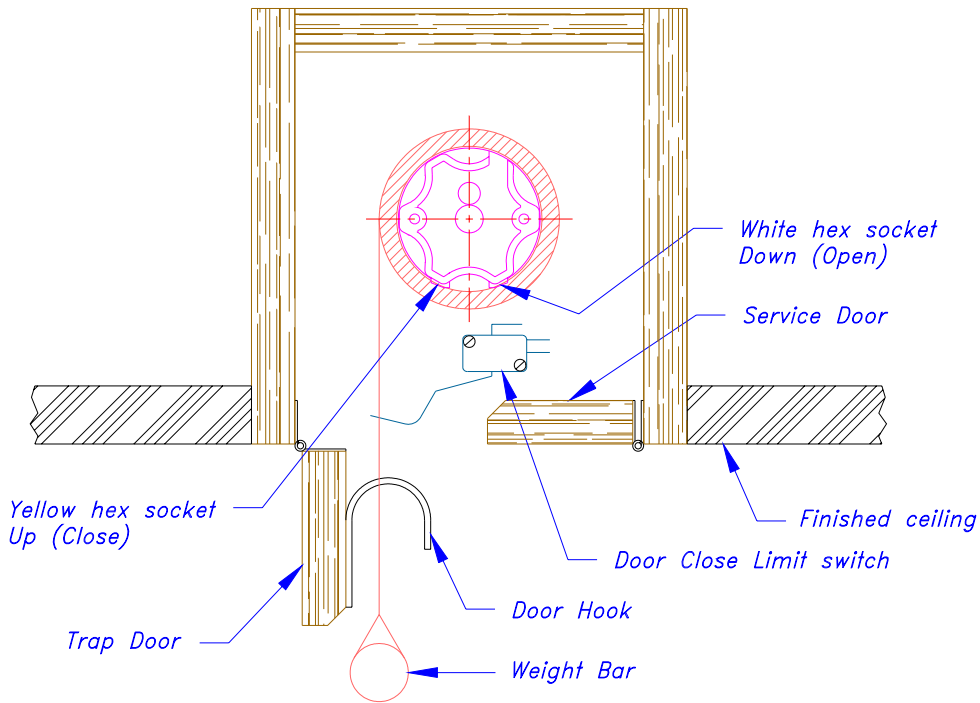

Figure 3
- 4 - If the motor is still running when the trap door is fully closed, send the screen down and stop when the trap door is fully open. Bend or adjust the lever of the Door Close Limit switch downward. This adjustment allows the trap door to trip the Door Close Limit switch (see Figure 3) sooner and shuts off the motor. Repeat steps 3 and 4 until satisfied.
Any LECTRIC II or IV screen has motor equipped with hex socket limit switches need not concern about the limit switches become reset during shipping and handling. Screen is ready for operation once the electrical connections are complete. As shown in Figure 3, the white hex socket controls the screen's lower limit. The yellow hex socket controls the screen's upper limit.